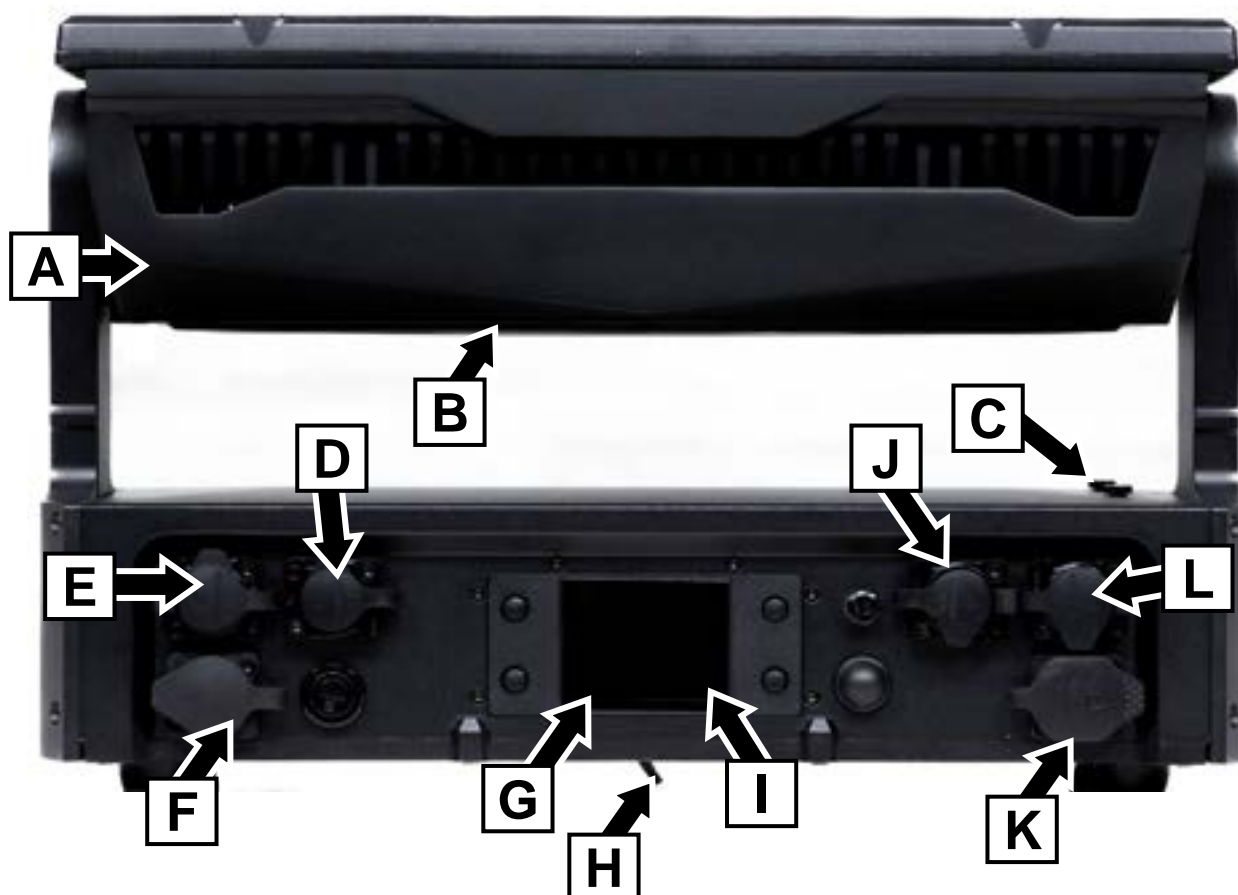

Figure 2. JDC Burst 1 overview
3. See Figure 2 on page 15. Open the retractable safety cable attachment eyelet on the base of the unit marked **H** in Figure 2 and fasten the safety cable to it.